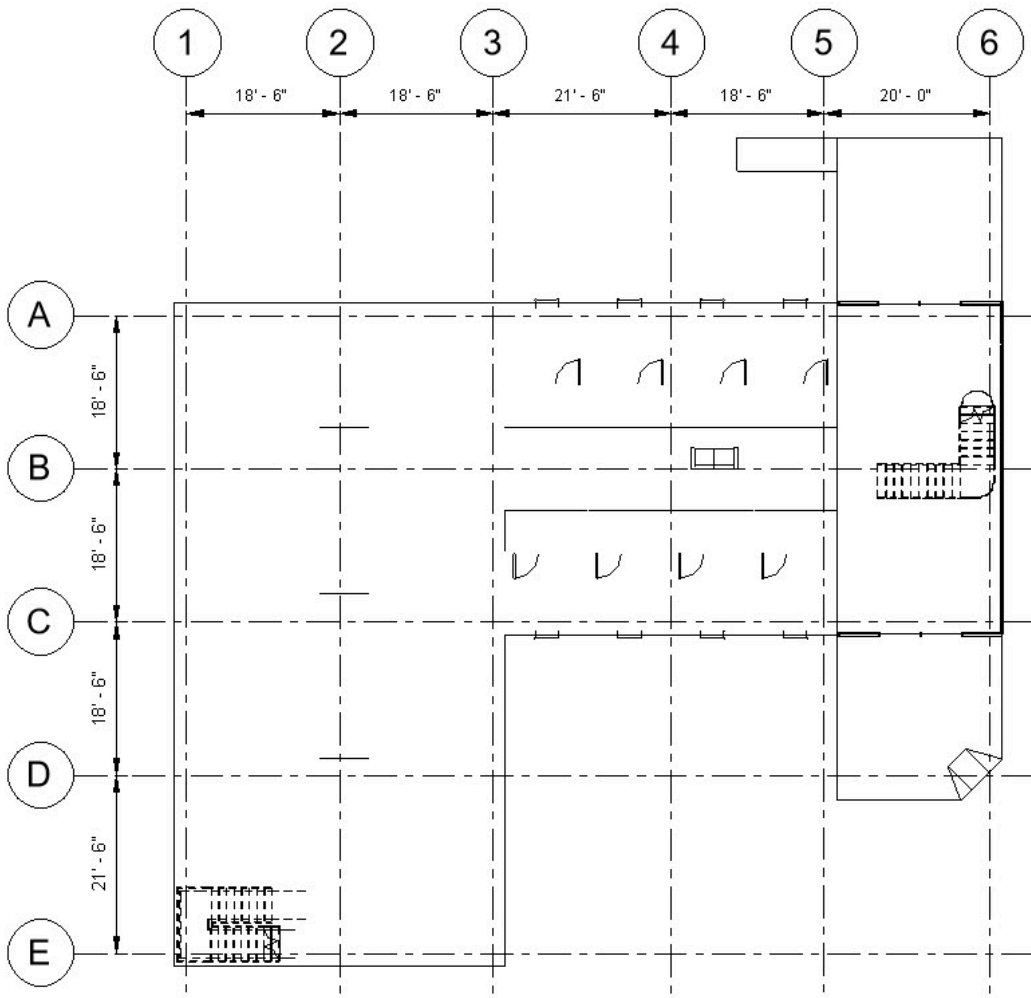

Figure 16.3 Completed grid lines placement, renaming, and dimensioning shown in Level 1 floor plan
7. Select a grid then click and drag the grips away from the building as shown in Figure 16.3. Repeat this step until the ends of all 7 grids are aligned.